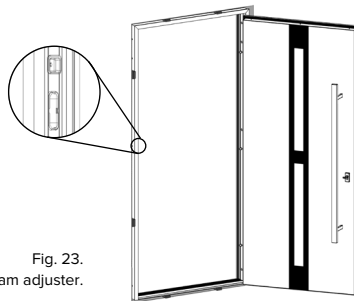

Fig. 23.
3.17. Adjustment of the leaf fitting to the plane (Fig. 23):